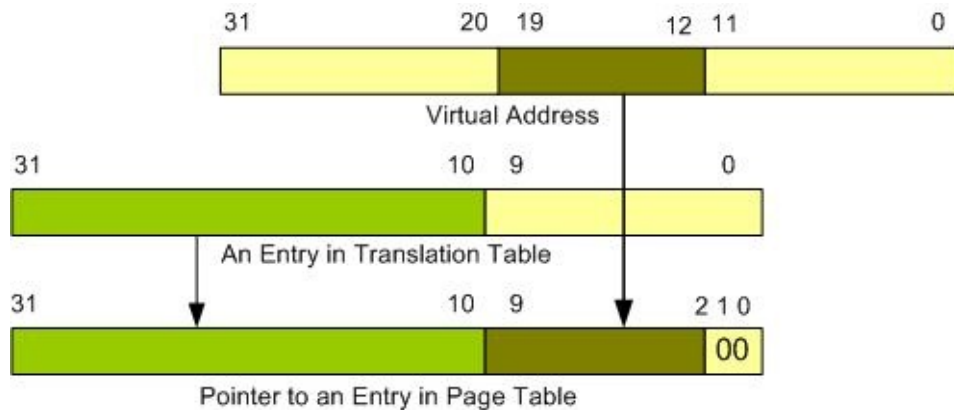

Figure 15-3: Accessing Page Table
- b) A19–A12 (8 bits total) of the virtual address are used to point to one of the page table entries. Since the middle 8 bits of the virtual address point to the entry in the second-level page table directory, there can be 256 page directories ($2^8 = 256$). Figure 15-3 shows how A19–A12 (8 bits total) of the virtual address and the upper 22 bits of translation table descriptor are concatenated to produce pointer to an entry in the page table.
Let's assume an ARM chip has the TLB with 64 entries. That means the TLB inside the CPU keeps the list of addresses for the 64 most recently used pages, which allows the CPU to have instant access to 256K bytes ($64 \times 4K = 256K$) of code and data at any time without going through the time-consuming process of converting the virtual address to a physical address (two levels of table-walking). See Figure 15-3. The 64 TLB entries use 64×32 -bit of SRAM since the addresses are 32-bit in ARM. Therefore, one way to avoid the process of virtual-to-physical address translation (to maximize TLB hit) is to increase the number of pages held by the TLB. Then, the question is why not have 1024 entries for TLB and have instant access to 4M bytes ($1024 \times 4K = 4,096K = 4M$) of code and data? The problem is searching for the 1024 entries takes time even if we have a very fast comparators and that defeats the purpose of TLB. Also using 1024 entries TLB needs 1024×4 bytes = 4096 bytes of SRAM inside the ARM. With 64 entries TLB we only need 64×4 bytes = 256 bytes of SRAM. Obviously larger TLB is more expensive. So some vendor of ARM CPUs might use 2-way or 4-way set associative with 32 entries to reduce the occurrence of page fault, that is to reduce virtual-to-physical address translation time (table-walking). See the reference manual for vendor of your ARM chip for TLB size and its associativity. Also see cache memory chapter for explanation of n-way set associative concepts. See Example 15-1